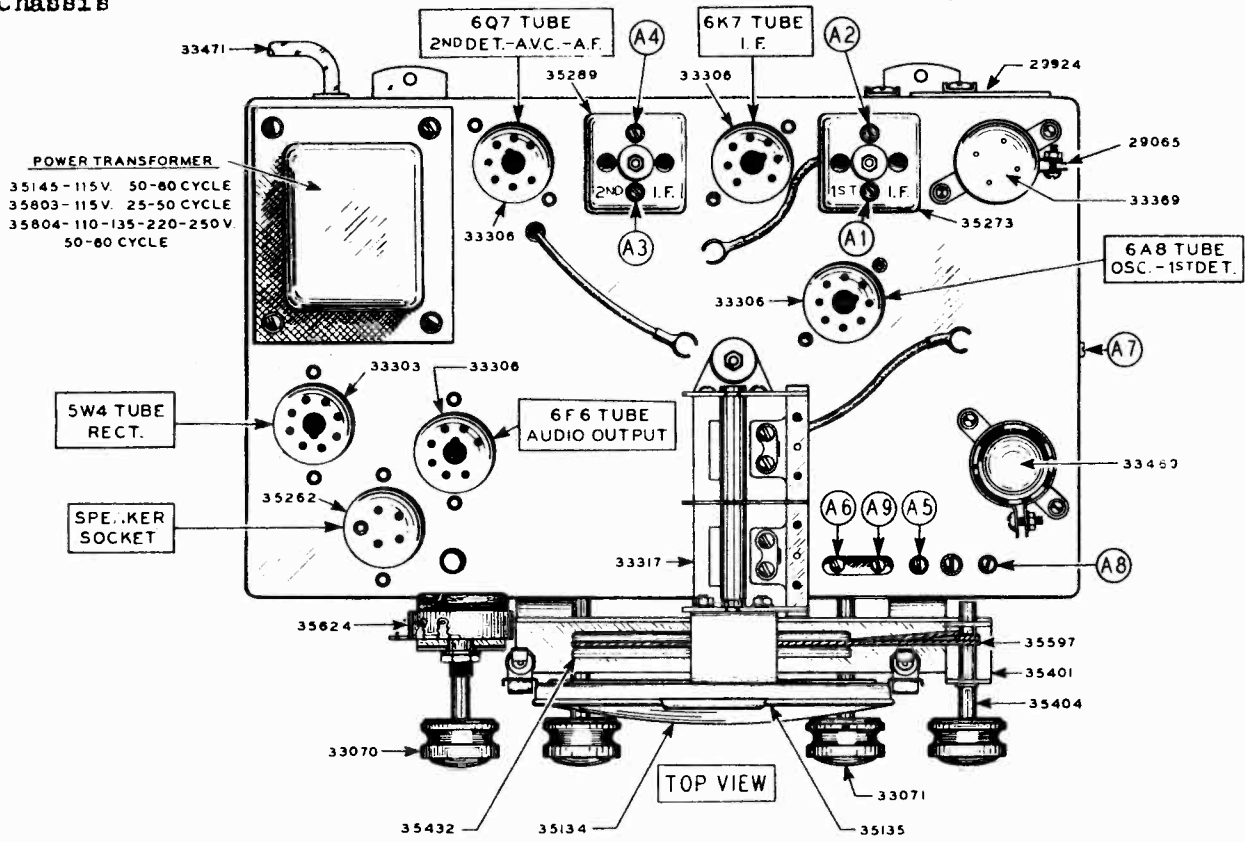

FIG. 1
(E) Adjust four I. F. Trimmers, (A1-A2-A3-A4) located on the I. F. Transformers on top of Chassis (Fig. 1) until maximum output is obtained. During alignment maintain as low a value of signal as will allow obtaining of accurate adjustment.